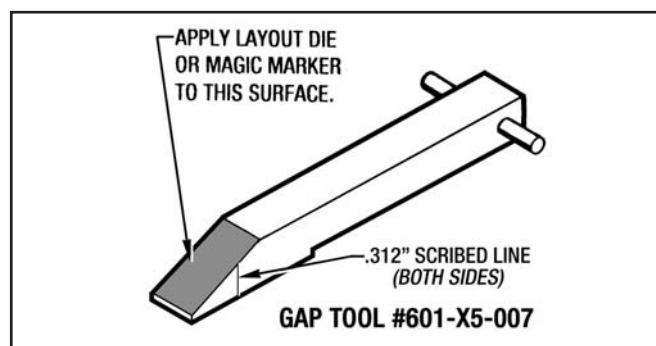

Figure 6.2 - Gap Tool #601-X5-007
4. Apply machinist fast drying layout die or (use a black magic marker) to the sloping surface of the Gap Tool as shown in *Figure 6.2* below.